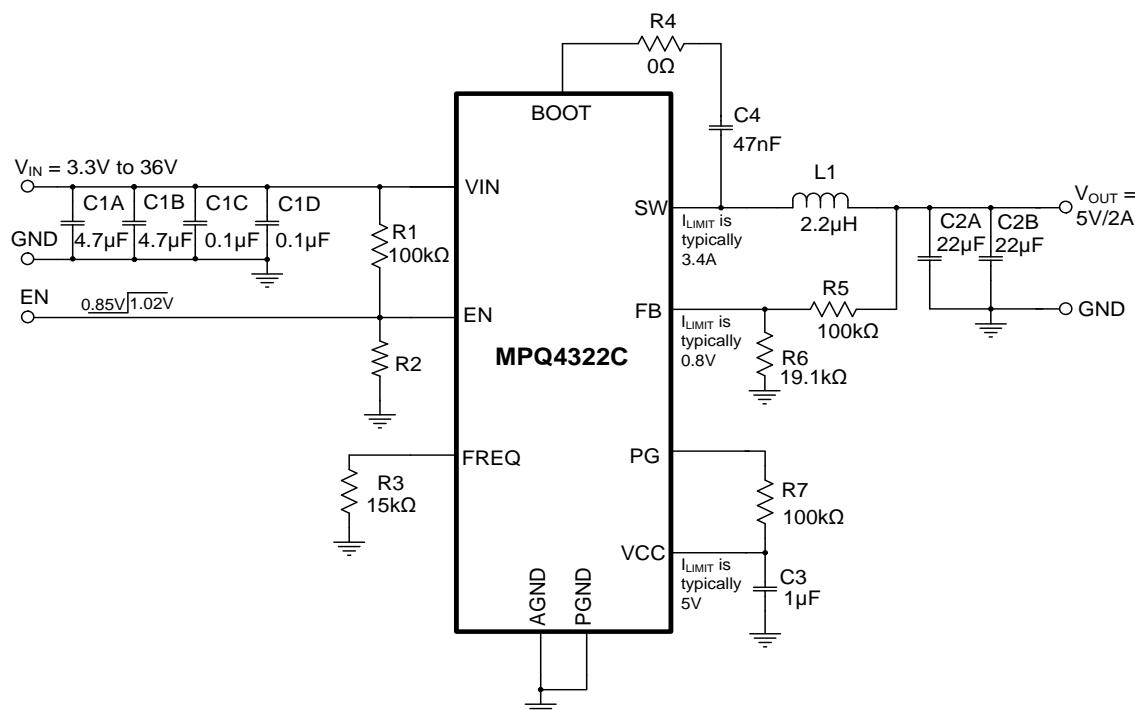

Figure 10: Typical Application Circuit with Bootstrap Resistor (R4) ($V_{OUT} = 5V$, $f_{sw} = 2.2\text{MHz}$)
14) The recommended PCB layout is based on the typical application circuit in Figure 10 on page 35.
Updated C_4 from 100nF to 47nF in Figure 10 through Figure 20.	35–41